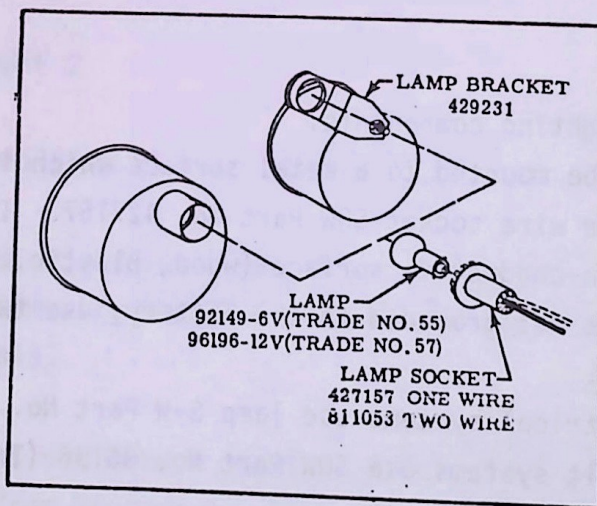

FIGURE 7-3
7.5.2 If gauge is of 2-1/16" dia. case size, install lamp bracket (Figure 7-3).
7.5.3 Insert lamp and lamp socket into hole in case or lamp bracket. (Figure 7-3)